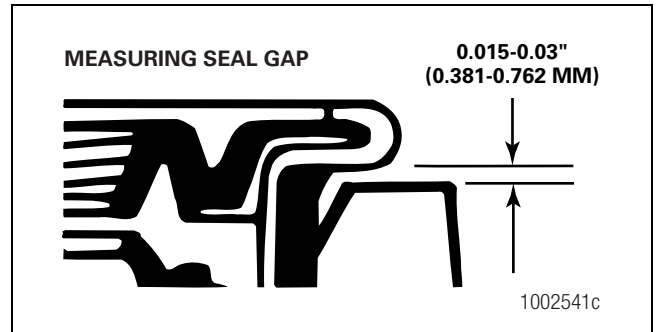

Figure 5.68
- If the gap varies more than 0.010-inch (0.254 mm) between the highest and lowest measurement: Remove and reseal the seal. Figure 5.68.